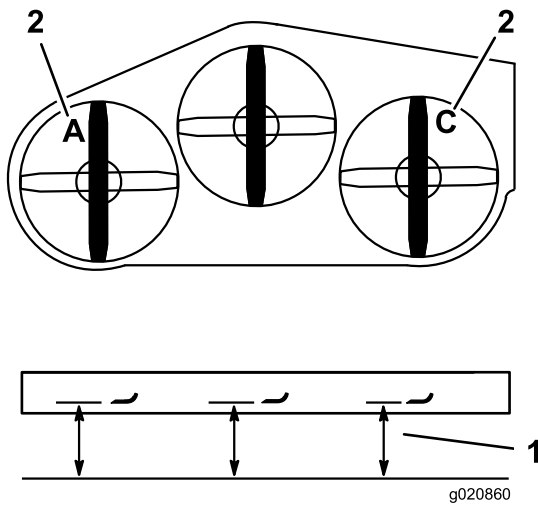

Figure 82
3. Measure the left blade at the **A** location, from a level surface to the cutting edge of the blade tip, and record this measurement (Figure 82).
4. Measure the right blade at the **C** location, from a level surface to the cutting edge of the blade tip, and record this measurement (Figure 82).
7. Adjust the adjustment bolts in the yokes, at locations **A** and **C**, to achieve the correct height (Figure 82).
3. Measure the right blade at location **C**, from a level surface to the cutting edge of the blade tip, and record this measurement (Figure 82).